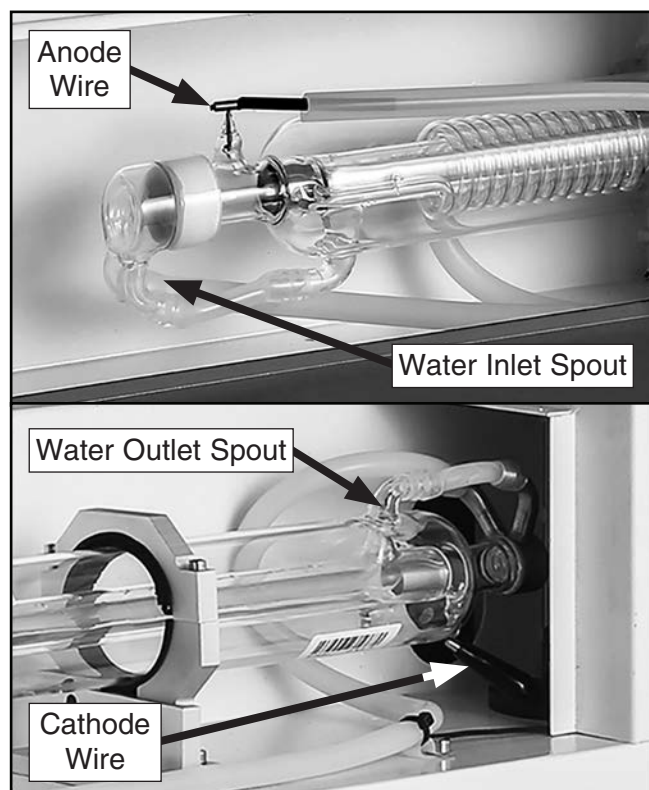

Figure 85. Laser tube end components.
7. Disconnect anode and cathode wires from laser tube (see **Figure 85**).
8. At laser tube INLET and OUTLET water spouts (see **Figure 85**), cut off water hose at end of spout, and with a utility knife, carefully slit remaining hose until it can be peeled off.